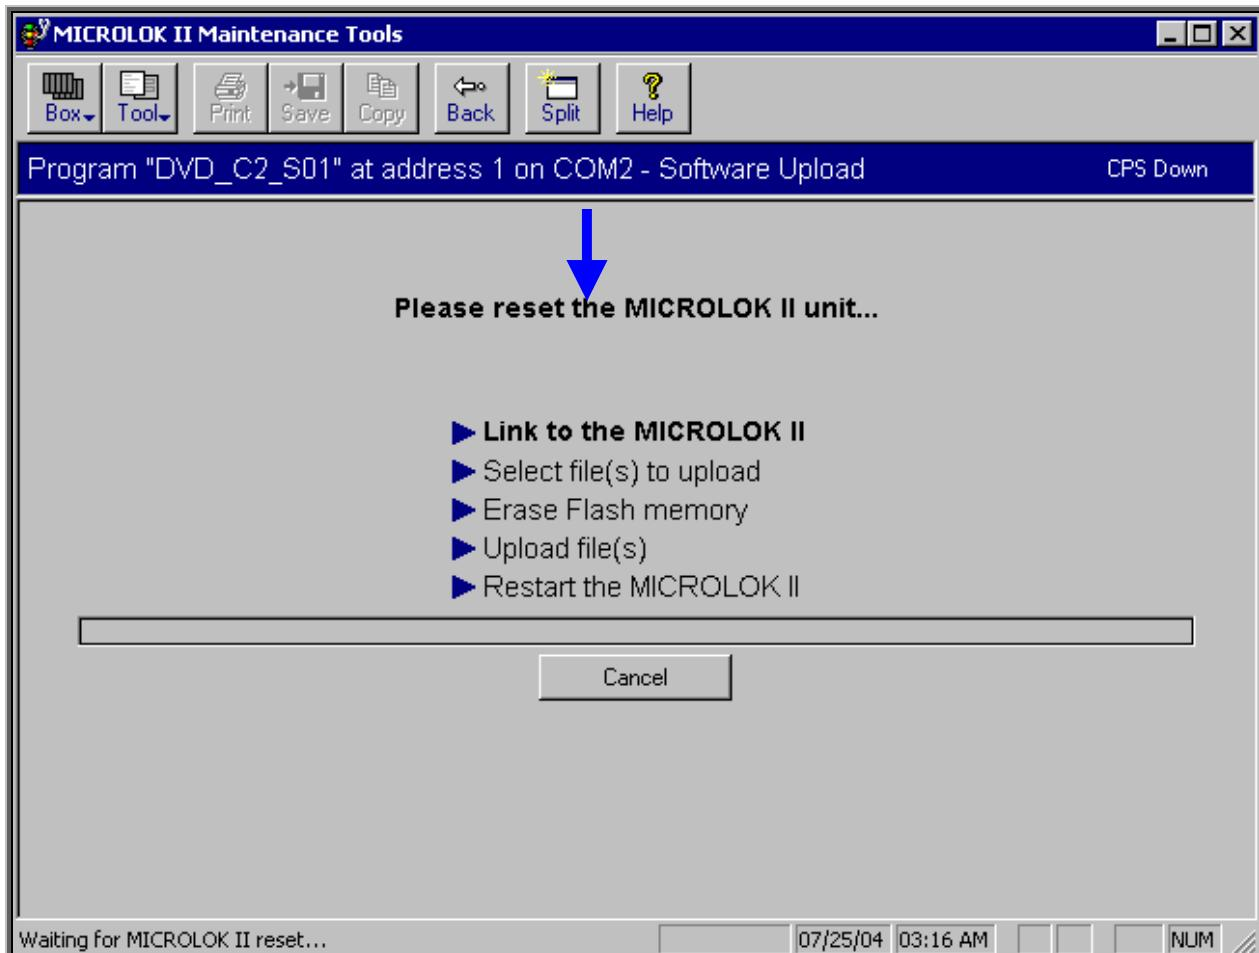

Figure-5.9.5
- ❖ “**Software Upload**” window appears (Figure-5.9.5).